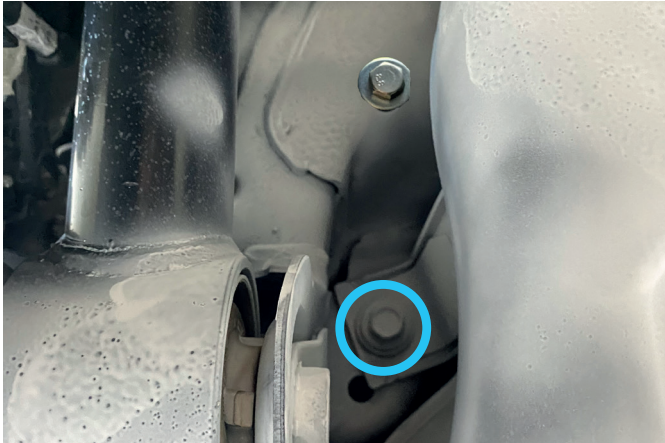

Fig. 9
9. Remove rear left factory bolt as shown in fig.9.